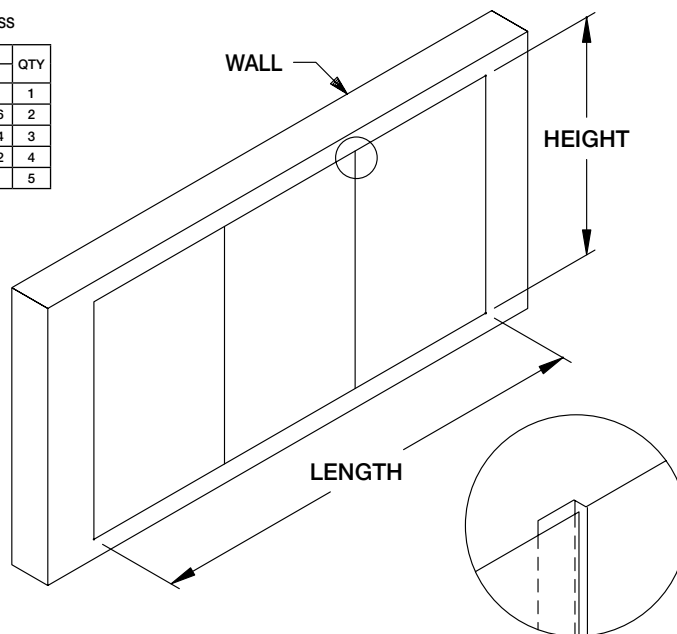

Fig. 18
1. Layout backsplash panels according to Fig. 18